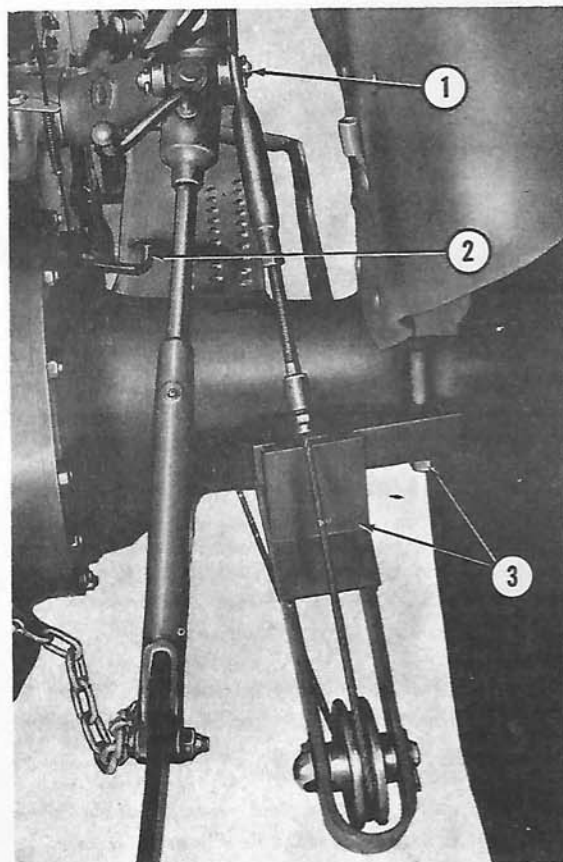

Figure 11
5. Working at the rear of the tractor, remove the two right hand fender bolt nuts and lockwashers and install the rear sheave bracket assembly on the bolts as shown at (3), Figure 11. Secure the assembly with the nuts and lockwashers.
6. Thread the opposite end of the cable tube through the rear sheave bracket as shown in Figure 11.
7. Remove the leveling lift link pin at (1), Figure 11 and install the cable eye at the right side of the lift arm using a 5/8" x 415/16" drilled pin and two 3/16" x 1" catter pins as shown.
8. Install the cable transport hook (2), Figure 11, to the right rear running board bracket using the two bracket bolts and lockwashers provided on the tractor. Place a 5/64" x 11/2" hair pin in the hole provided at the top of the transport hook.